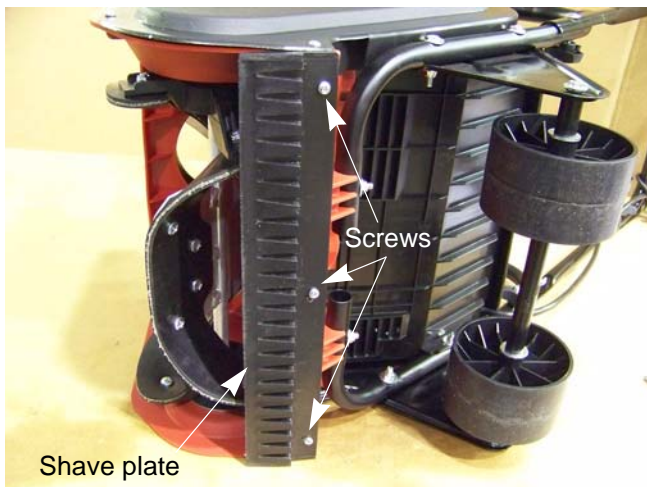

Figure 4.2
3. Remove the three screws that hold the shave plate to the auger housing using a #2 phillips screw driver. See Figure 4.2.